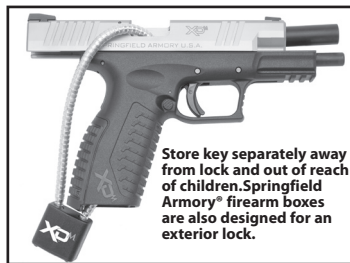

Figure 20
- If cartridge cannot be removed, lock slide back, carefully store your firearm and magazines and take it to a pistolsmith. (USE SUPPLIED CABLE LOCK.) (See Figure 20 & Page 37)